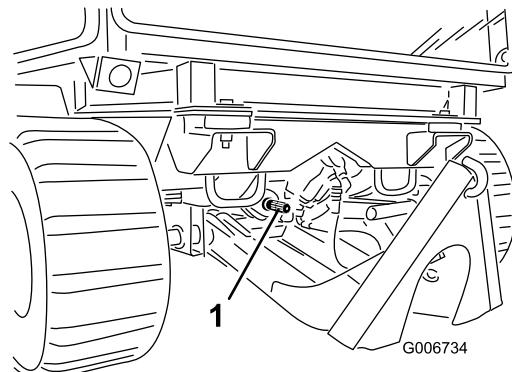

Figure 57
6. If the attachment is powered by the PTO, extend the attachment PTO shaft and insert it onto the machine PTO shaft (Figure 57).